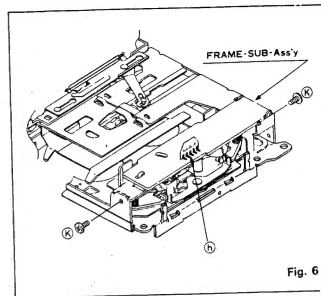

Fig. 6
- (1) Remove solder from 5 points at Section ①. (Refer to Fig. 6).
- (2) Loosen Screws ⑧ (2 pcs.) to remove the frame sub ass'y.